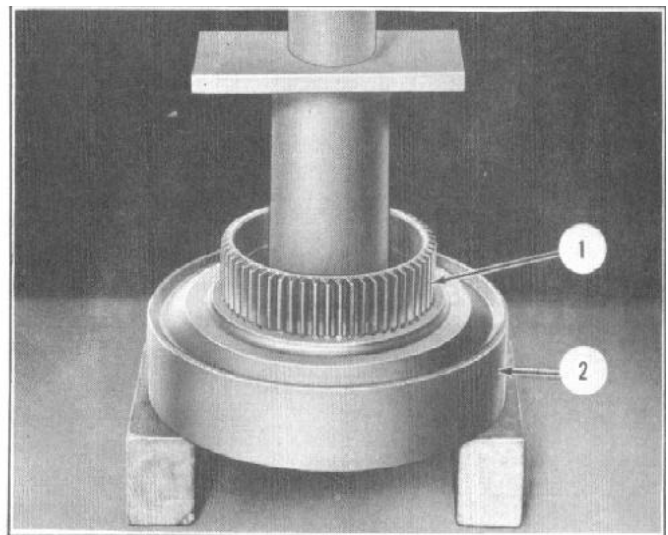

FIGURE 98
the end of the snap ring out of the groove and with the use of an arbor press, press out the carrier (1) from the drum (2), Figure 98.